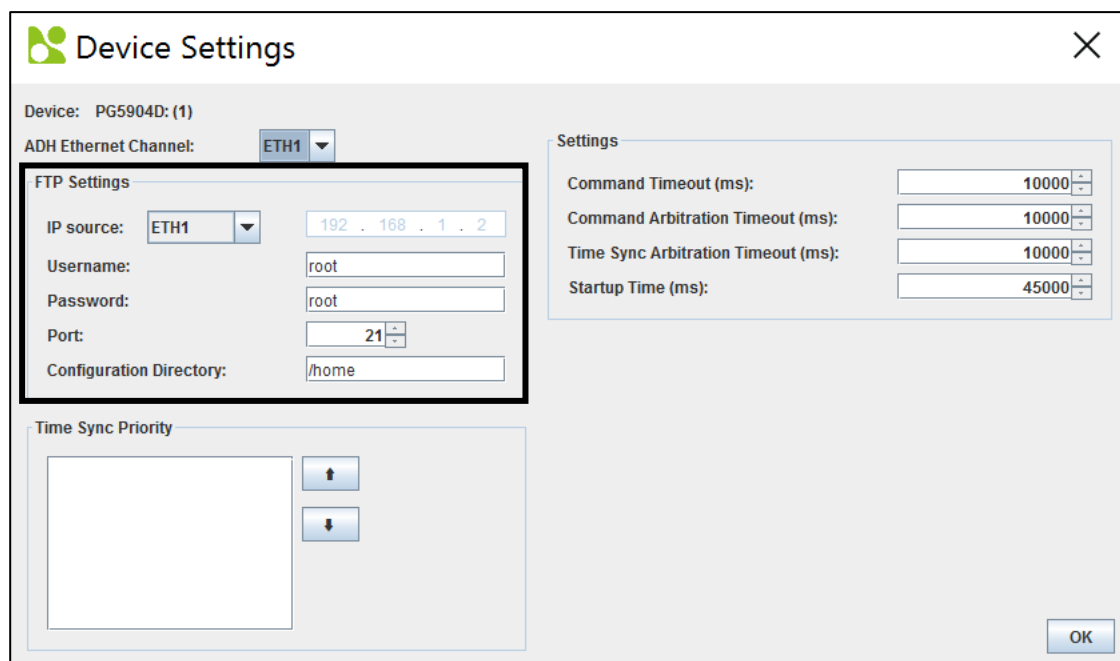

Figure 5-25 - Device settings window.
- 1 Open Device Settings** – Can be used to change FTP settings as in **Figure 5-25**.